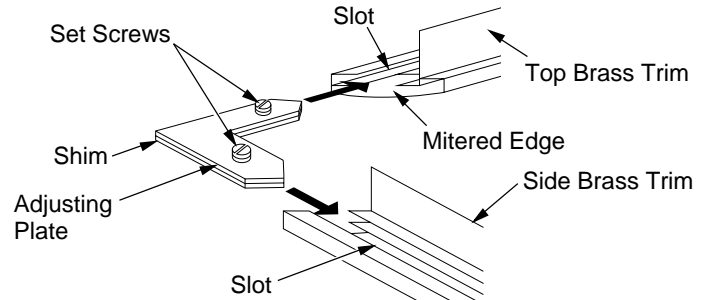

Figure 15 - Assembling Brass Trim
3. Align shim under adjusting plate as shown in Figure 15.
4. Slide one end of adjusting plate/shim in slot on mitered edge of top brass trim (see Figure 15).
5. Slide other end of adjusting plate/shim in slot on mitered edge of side brass trim (see Figure 15).